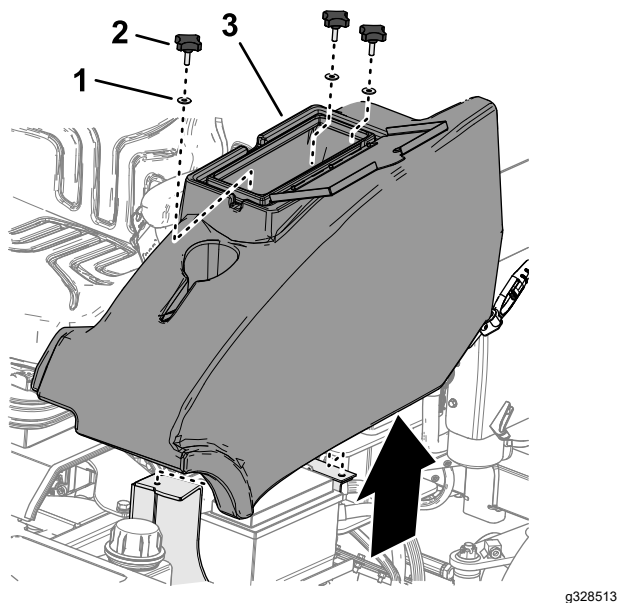

Figure 45
1. At the left side of the operator's platform, open the door of the storage compartment (Figure 45).
2. Remove the 3 knobs and 3 washers that secure the storage compartment to the machine, and remove the compartment (Figure 45).